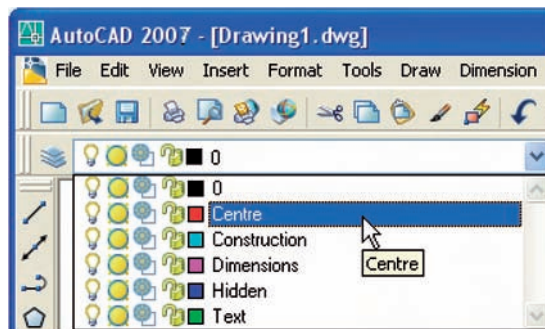

Fig. 7.5 Making the layer **Centre** current
- (a) Click the arrow to the right of the **Layers** field to show all layers set in the **acadiso.dwt** template on which the drawing has been constructed (Fig. 7.5).